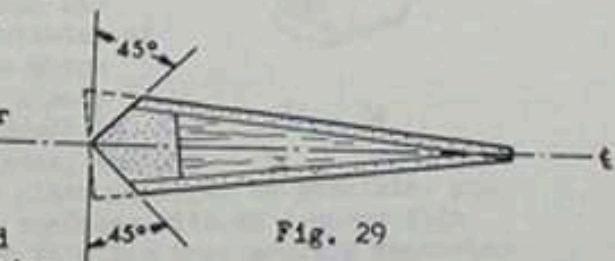

Fig. 29
28. Construct the rudder as shown in figure 28 from 1/16" thick balsa and 3/8" square balsa blocks, using the outline on the template drawing as a guide. Bevel the leading edge (figure 29), being careful to locate the centerline. When the rudder is completed, drill a hole and add a 1/2" dia. hardwood dowel at the location shown on the template. Sand the dowel to contour it with the rudder. The purpose of this dowel is explained in step 31.